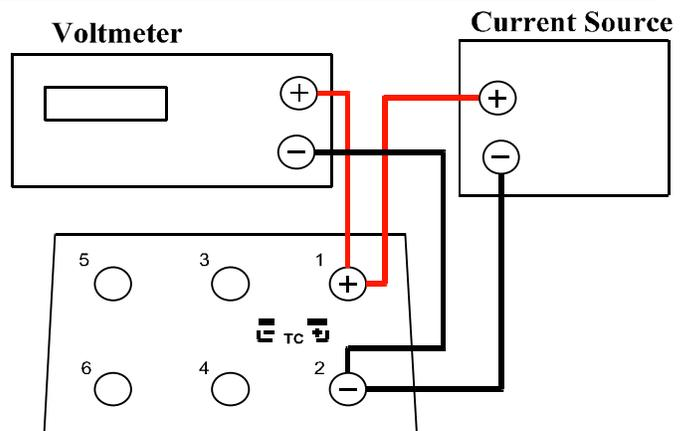

FIGURE 6
4. Hi Calibration: Switch the toggle switch to the middle position. Connect a Current Source (Set to 1mA) and a Voltage Meter to terminals 1 and 2 of the 830 (See figure 6). Dial the 830 until the meter reads 0.400V and press *STORE/RESET* and then press *TYPE/ENG UNITS*.